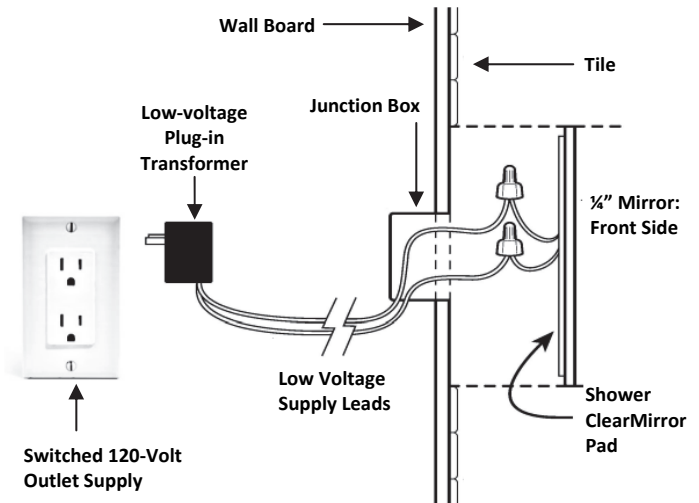

Figure 2. Running the power wires and mounting the mirror to the wall board (**side view**).
4. Connect power supply wires the wire leads on the mirror with wire connectors (see Figure 2).
7. Place mirror into the opening keeping a 1/8-inch border around the entire mirror (see Figure 2).